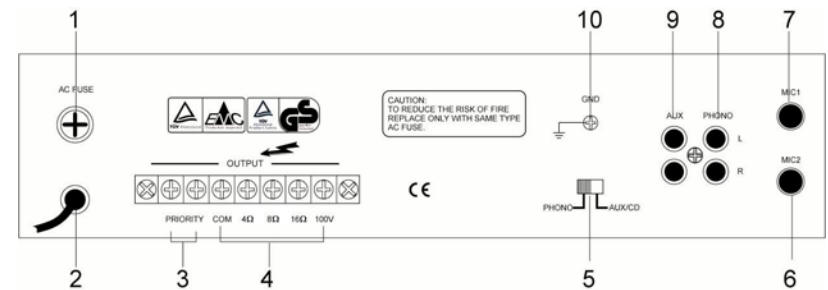

fig.2
To access to speaker connection terminals (**fig. 2 ref. 4**) remove the protection cover unscrewing the screws.
To use this amplifier with a constant impedance line, please connect the COM terminal to the negative post of your speaker, and connect the positive terminal to desired positive post (4, 8, 16 $\Omega$ ) (**fig. 2 ref. 4**).
If you're using a constant voltage line, connect either the 100V to the "+" side of speaker system, and connect COM to "-" side of the speaker (fig. 2 ref. 4).
When PRIORITY (fig.2 rif.3) terminals are in short-circuit, MIC2, AUX and PHONO inputs are muted and MIC1 has output priority.